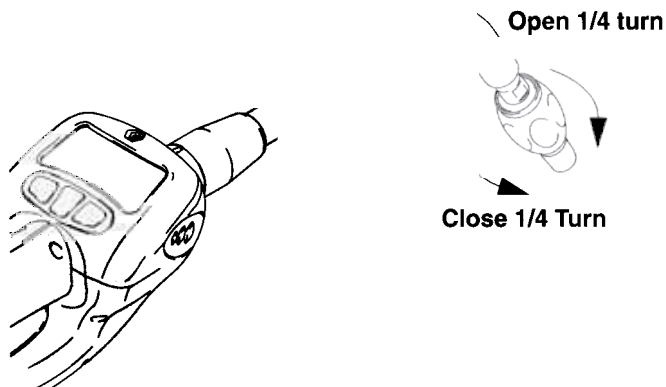

FIG. 14
1. To close the nozzle to prevent dripping, rotate left (counter clockwise) until tight (approximately 1/4 turn). See FIG. 14.